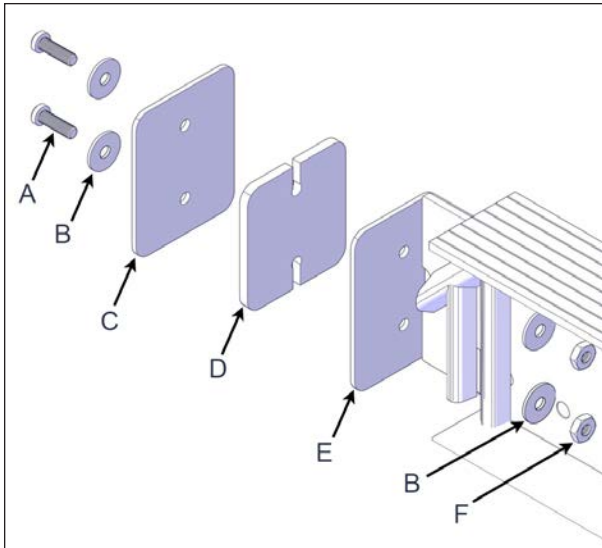

FIGURE 34: I-BEAM WITH THE SHORT I TO C CONNECTION PLATE INSTALLATION
4. Use #10-32 x 5/8" screws and #10-32 nuts. Insert the I to C spacer in between the I to C connection plate and the bracket. The screws and nuts can now be properly tightened see Figure 34.